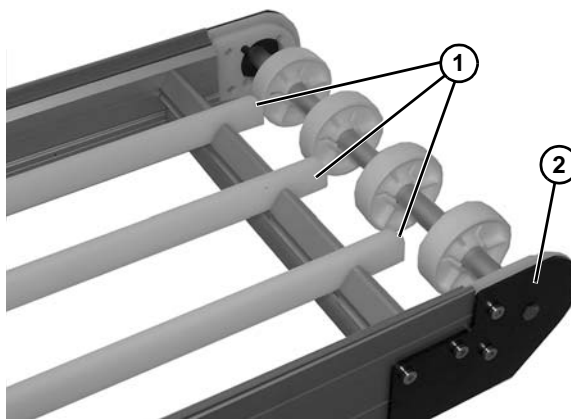

Figure 42
*The rounded ends of top wear strips (**Figure 42, item 1**) faces the idler end (**Figure 42, item 2**) of the conveyor.*